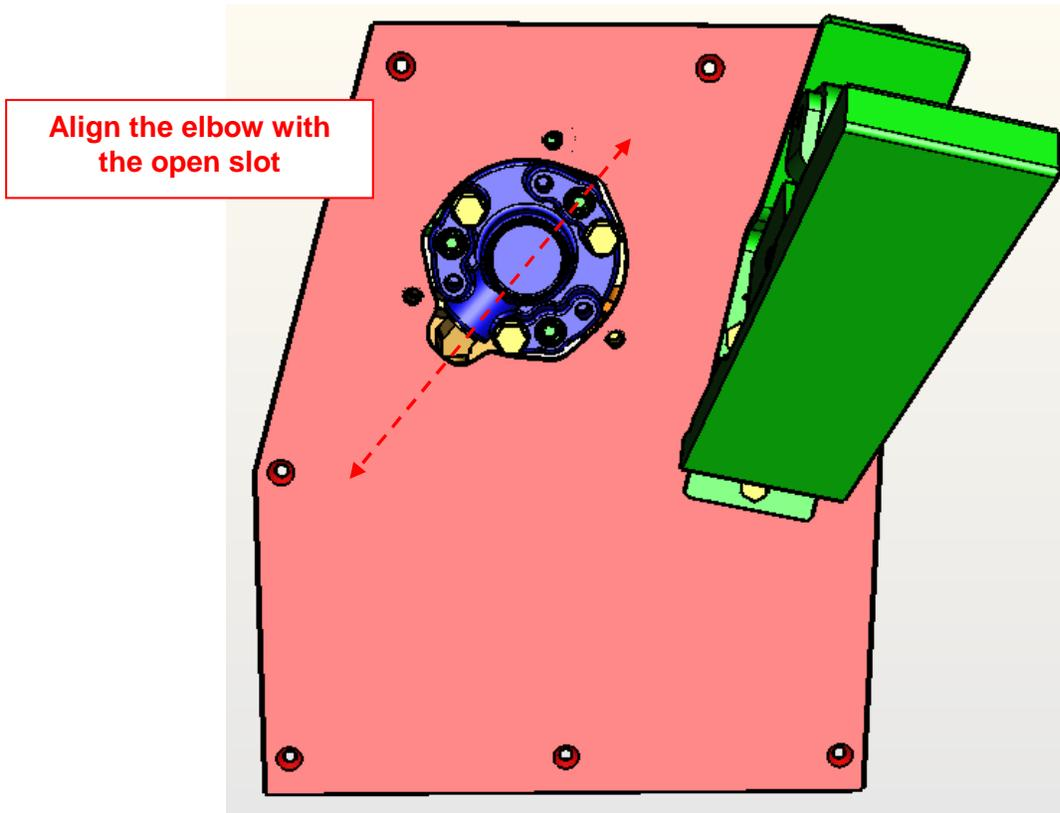

Figure 14: Align the BVA Valve with the New Plate
27. Align the BVA valve and the 45 degree elbow with the new plate as shown in Figure 14.